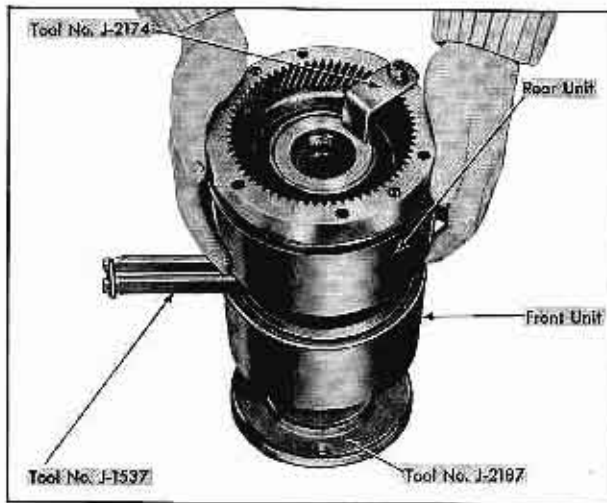

Fig. 14-43 Installing Rear Unit Assembly on Intermediate Shaft.
16. Install oil delivery sleeve over intermediate shaft with long bearing up. Compress exposed oil delivery sleeve rings with ring compressor, J-1537, and tap oil delivery sleeve into bore of front clutch drum with plastic or similar hammer. Fig. 14-43.
18. Compress exposed oil delivery sleeve rings, install rear unit drum assembly on intermediate shaft, Fig. 14-43.